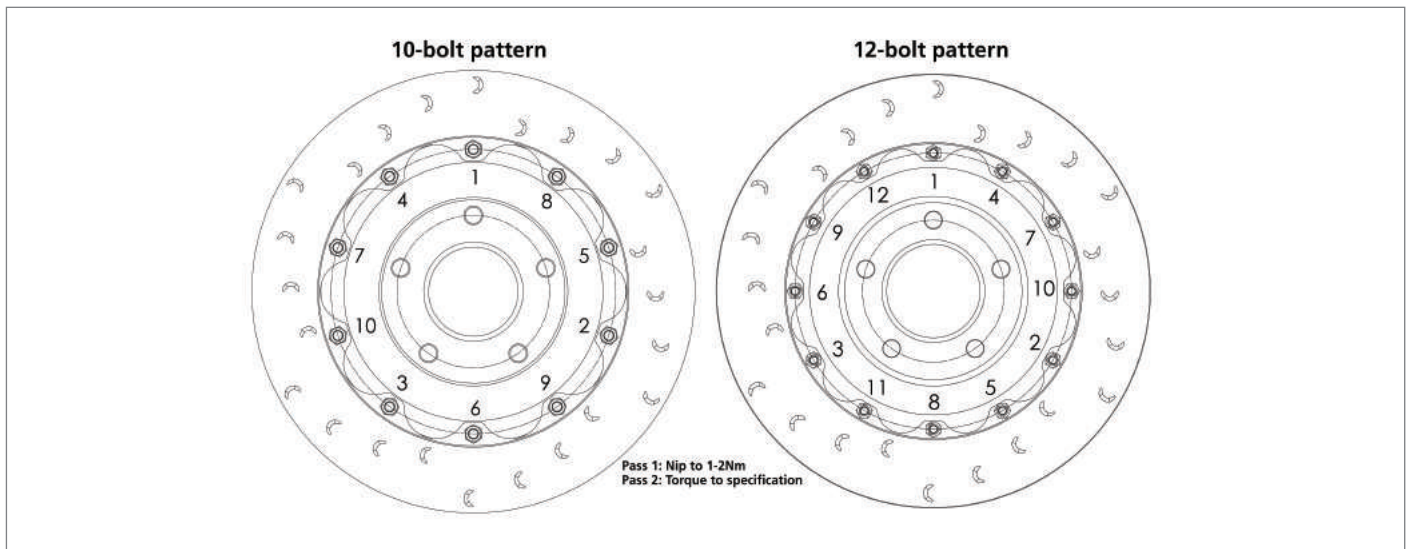

Figure 3. Tightening sequence
4. Tighten the nuts in the sequence shown in Figure 3, rather than a rotational sequence, to the specified torque using the appropriate tools. Prevent the bolt from rotating when applying the specified tightening torque to the nut. Do not hold the nut and tighten the bolt as it will cause the bobbin to rotate and the bell will lock up.